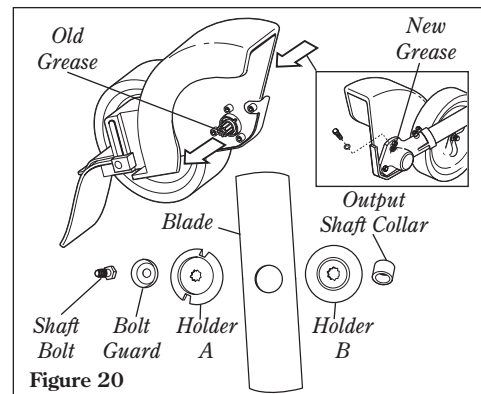

Figure 20
- Remove the cutting attachment, cutting attachment holder and gear shaft collar. Remove the filler plug from the side of the gearcase and press new grease into the gearcase until grease is pushed out. Use only lithium-base grease such as Shindaiwa Gear Case Lubricant or equivalent. See figure 20.